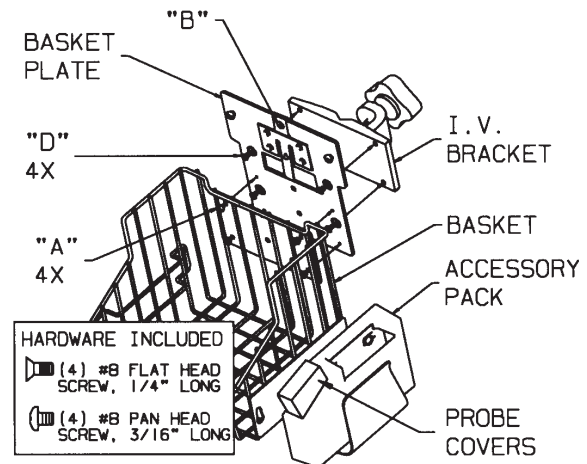

Figure 2
(Refer to figure 2 for the following instructions)
1) Attach BASKET PLATE to wall by inserting (5) #8 flat head screws (not provided) through BASKET PLATE in four "D" holes and one "B" hole. Securely tighten screws.
2) Assemble BASKET to BASKET PLATE by inserting (4) #8 X 3/16" long phillips screws through basket holes marked "A" and into four threaded holes in BASKET PLATE. Securely tighten screws.
3) *For Model #5200-62 only*, attach ACCESSORY PACK by orienting as shown in figure 2 and inserting onto side plate of BASKET and pushing up. This will lock ACCESSORY PACK onto BASKET.
1) Attach BASKET PLATE to I.V. BRACKET by inserting (4) #8 X 1/4" long flat head phillips screws through four countersunk holes, designated "D", into four threaded holes in bracket. Securely tighten screws.
3) *For Model #5200-64 only*, attach ACCESSORY PACK by orienting as shown in figure 2 and inserting onto side plate of BASKET and pushing up. This will lock ACCESSORY PACK onto BASKET.